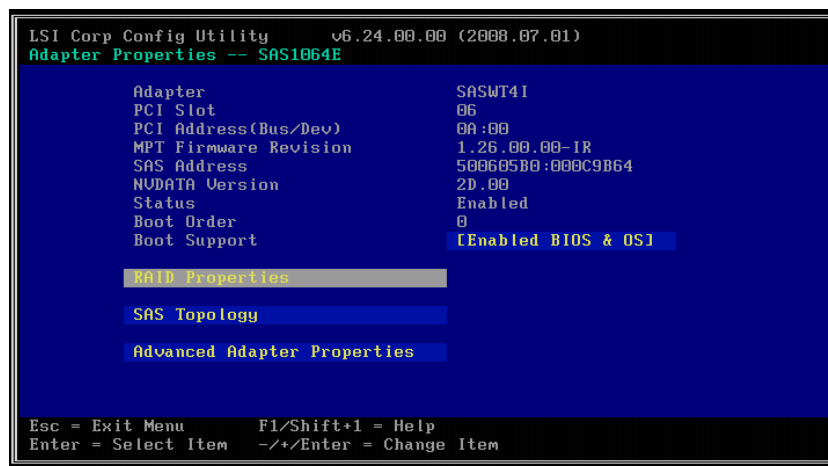

Figure 13. Adapter Properties Screen
2. Press <Enter> to go to the Adapter Properties screen, as shown in Figure 13.
2. Press <Enter> to go to the Adapter Properties screen, shown in Figure 13.